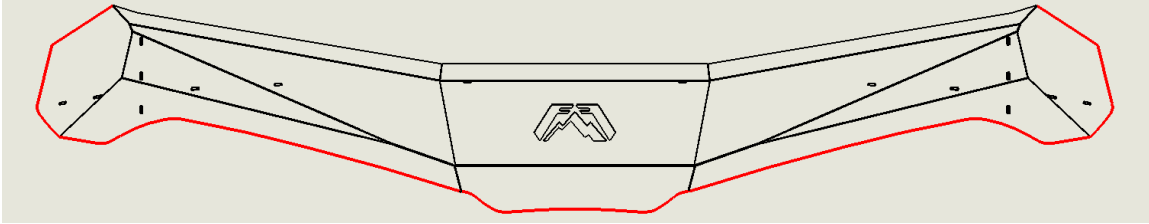

Fig 11
- f. Install the edge seal with adhesive onto the leading edge of the cowl as shown in Fig 11 by the highlighted red line.